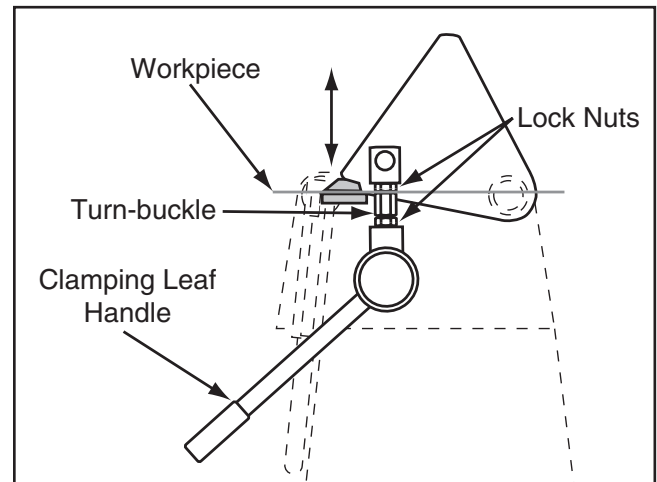

Figure 11. Clamping pressure adjustment.
3. Use a 24mm wrench to loosen the upper and lower lock nuts shown in **Figure 11**, and adjust the turn-buckle until the clamp handle is in the 7–8 O'clock position (as shown) when the clamping leaf just touches the workpiece.